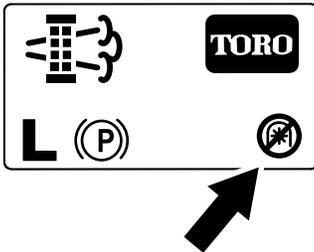

Figure 43
**Note:** The Home screen displays the PTO disabled icon (Figure 43).
**Note:** The Home screen displays the PTO disabled icon; refer to Figure 43 in Parked Regeneration Messages \(page 39\).